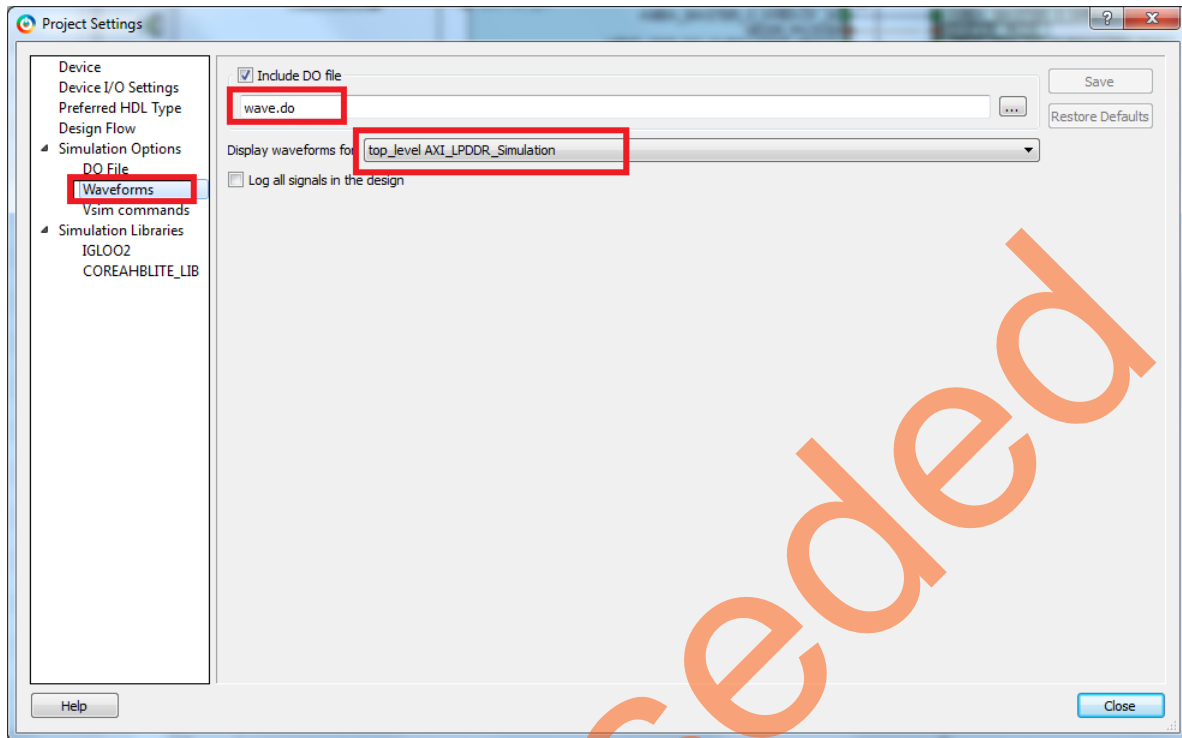

Figure 8 • Waveforms Settings
5. Ensure that the **Waveforms** tab has the configuration, as shown in Figure 8.